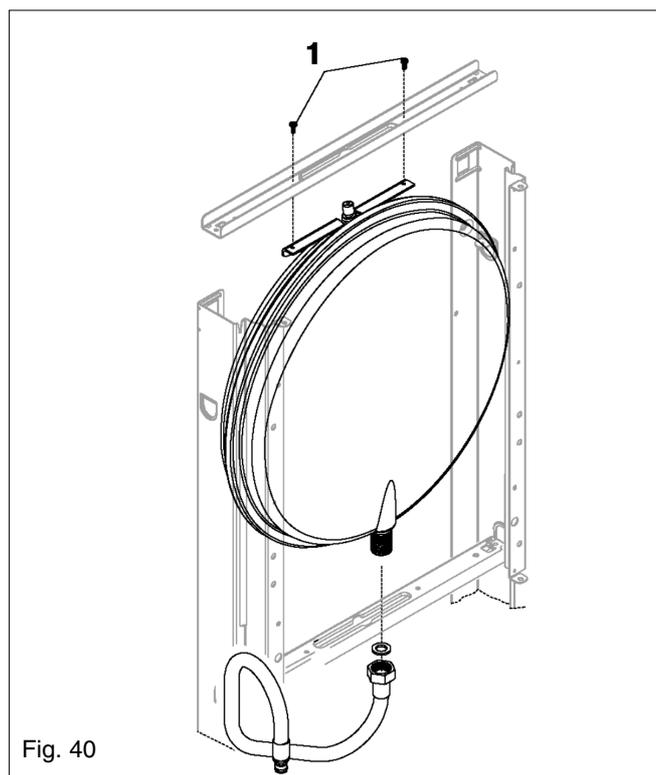

Fig. 40
Disconnect the flexible expansion pipe from the vessel (Fig. 40). Locate and remove the four screws that secure the vessel top holding plate, remove the plate. The expansion vessel can now be removed. Replace in the reverse order. Ensure all seals are in good condition, taking care to ensure they are replaced correctly.
Locate and remove the 2-screws that secure the lower section of the air chamber. Locate and remove the 2-screws that secure the upper section of the air chamber. The complete air chamber assembly can now be lifted clear from the appliance. Disconnect the flexible expansion pipe from the vessel (fig. 40). Locate and remove the 2-screws that secure the vessel (1). The expansion vessel can now be removed. Replace in the reverse order. Take extreme care when refitting the wiring to the air chamber. Ensure all seals are in good condition, taking care to ensure they are replaced correctly.